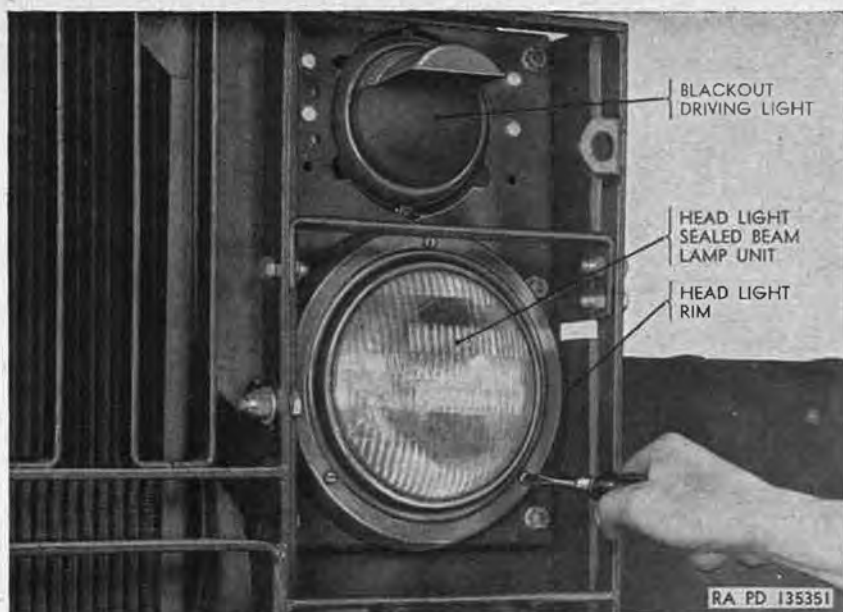

Figure 182. Removing headlight rim.
- (1) Remove three mounting screws from headlight rim (fig. 182) and remove rim.
(3) Position headlight rim (fig. 182), install three screws, and tighten.
c. *Adjustment.* Adjustment of the headlights is readily accomplished with a headlight aiming chart. Cover one headlight while adjusting the other. Remove headlight rim (fig. 182). Turn vertical